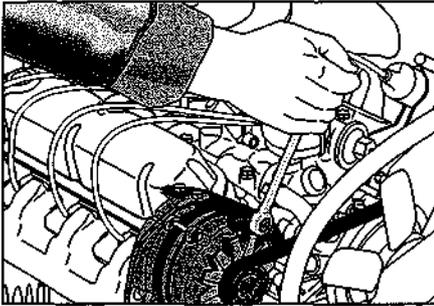

Figure 14-12:
4. **Tighten the nut or bolt with the adjustable slot first, followed by the pivot nut or securing bolt (see Figure 14-12).**
2. Loosen the adjustment bolt or securing nut (refer to Figure 14-12).